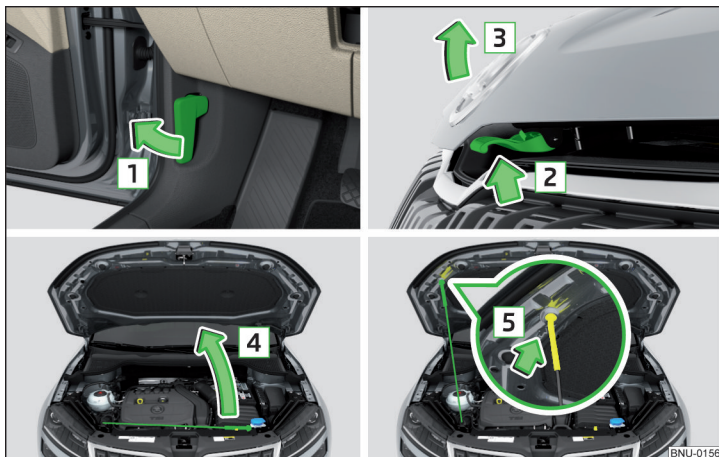

Fig. 305 Opening the bonnet
- › Open the front door and pull the release lever below the dash panel in the direction of arrow **1** » Fig. 305.